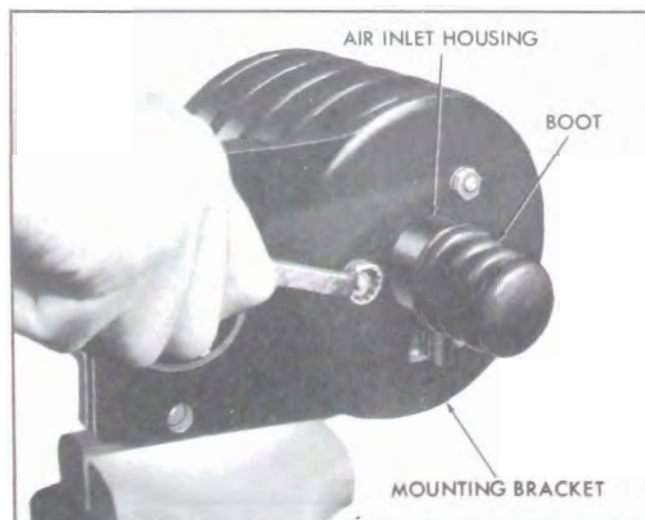

Figure 9-27—Removing Mounting Bracket Assembly
1. Remove the three attaching nuts and lock washers and remove the mounting bracket assembly from the power unit. (Figure 9-27.)